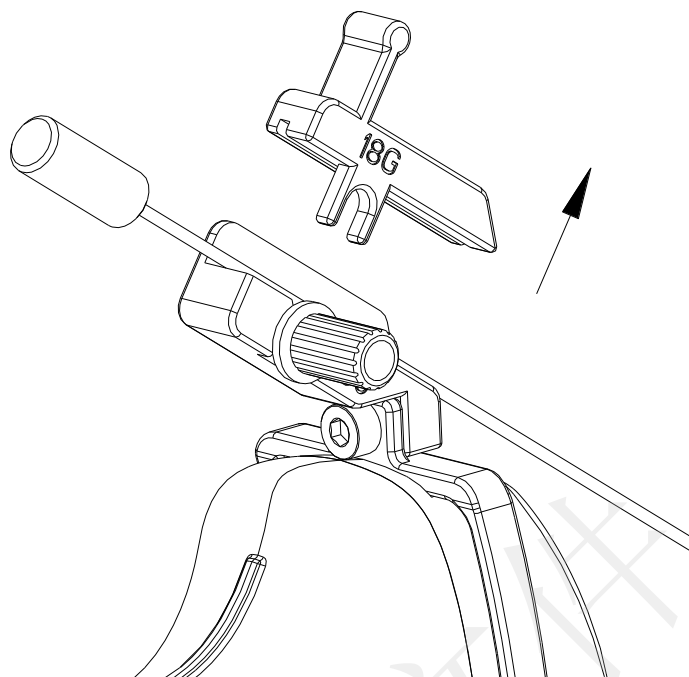
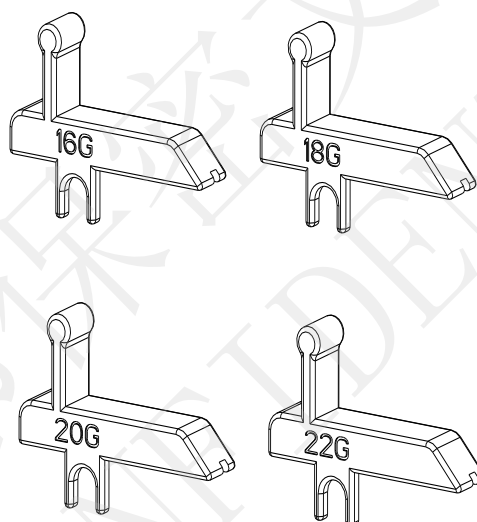

Figure 6-34 Removing the Vessel
Figure 6-35 Vessel Models
Step 5: To replace probe, needle, vessel, or to remove bracket, turn the knob 1 counterclockwise (slightly), remove the vessel as the arrow direction shown in Figure 6-34, and then replace the probe, needle, vessel, or remove the bracket if necessary. To replace a vessel, perform the reverse procedures. Models of the supported vessel are shown in Figure 6-35.